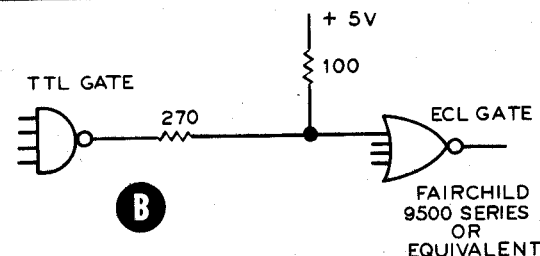

Figure 3
As shown in the following "IC Compatibility Chart," the power supplies and other circuitry of your Digital Experimenter are compatible with most of today's commonly used logic families. Figure 2 (on Page 39) shows how the power supply can be adapted for still another logic family, and Figures 3 and 4 show simple interface (connecting) circuitry between some of these families.
4. Even with a +5-volt supply on the ECL circuits, this type of IC is not compatible with the switches and indicators on the ET-3200. With some simple circuit additions, you can obtain full compatibility. Figure 3 shows two simple circuits to convert standard TTL levels to ECL levels. The second circuit in Figure 3 can also be used to convert the clock, data switch, and logic switch outputs of the ET-3200 to ECL levels.